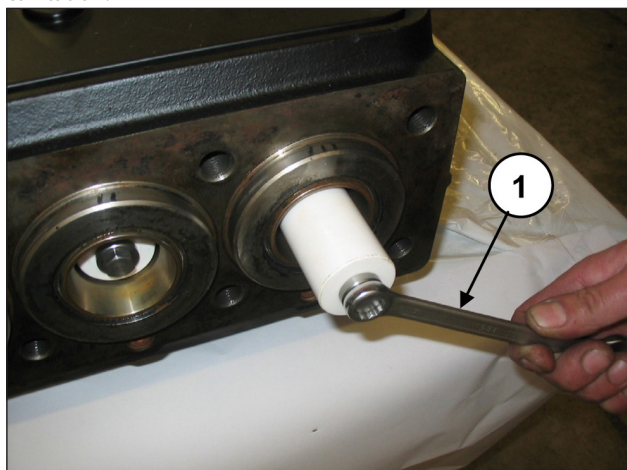

Fig. 132
Disassemble the pistons by unscrewing the fixing screws (pos. ①, Fig. 132).